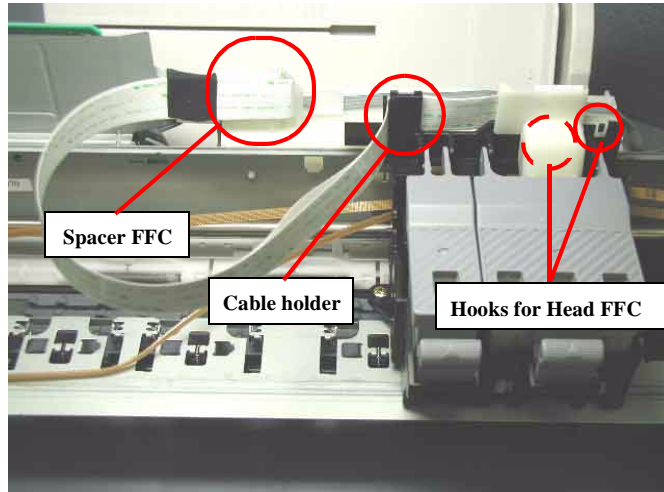

Figure 4-5. Head FFC holder removal
- Make sure to place the Head FFC on the Spacer FFC and the cable holder on the left side of the CR unit. (Refer to Figure 4-5)
6. Release the Head FFC from the Spacer FFC on the LD roller shaft holder, and disconnect the Head FFC from the connectors (CN8, CN9) on the Main board. (Refer to Figure 4-5)